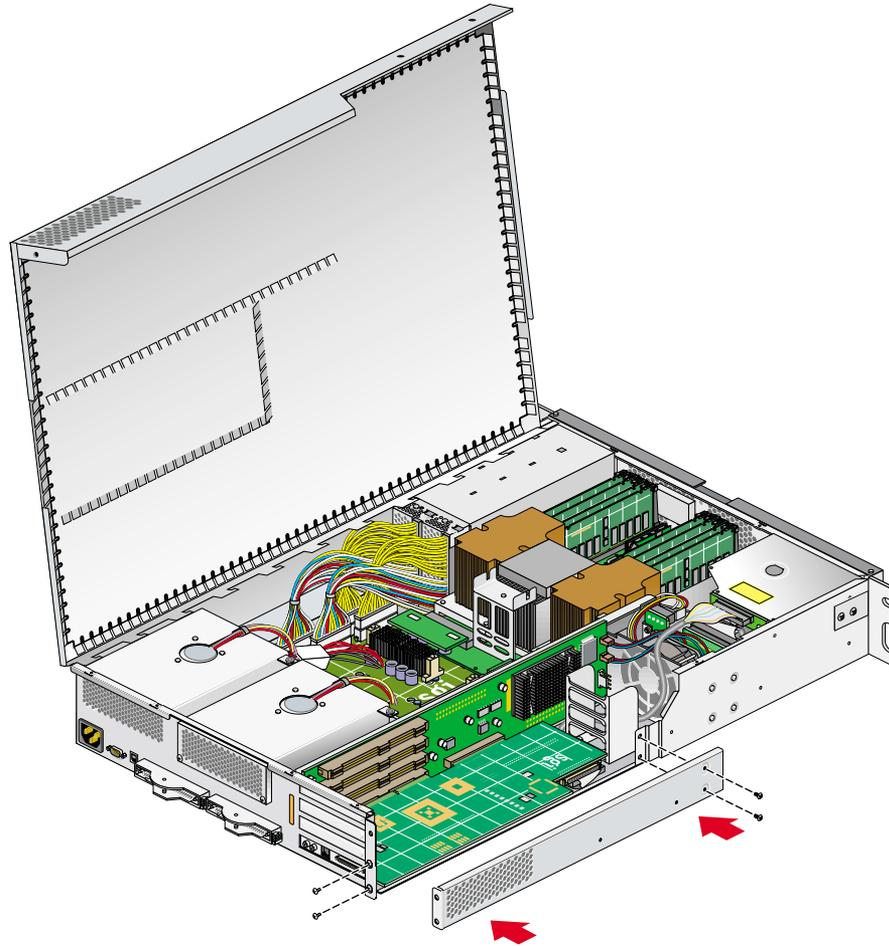

Figure 7-15 Replacing the Lower PCI/PCI-X Support Bracket
12. If you have removed a card from one of the two bottommost card slots, replace the lower PCI/PCI-X support bracket that covers the two bottommost slots, and screw in the four Phillips screws, as shown in Figure 7-15.